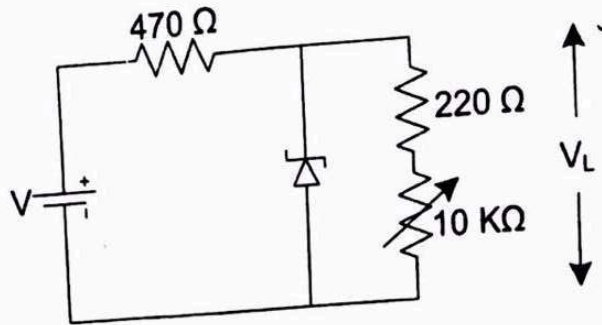

Figure 4.4 : Experimental Circuit 2.
3. Connect the circuit as shown in the figure 4.4